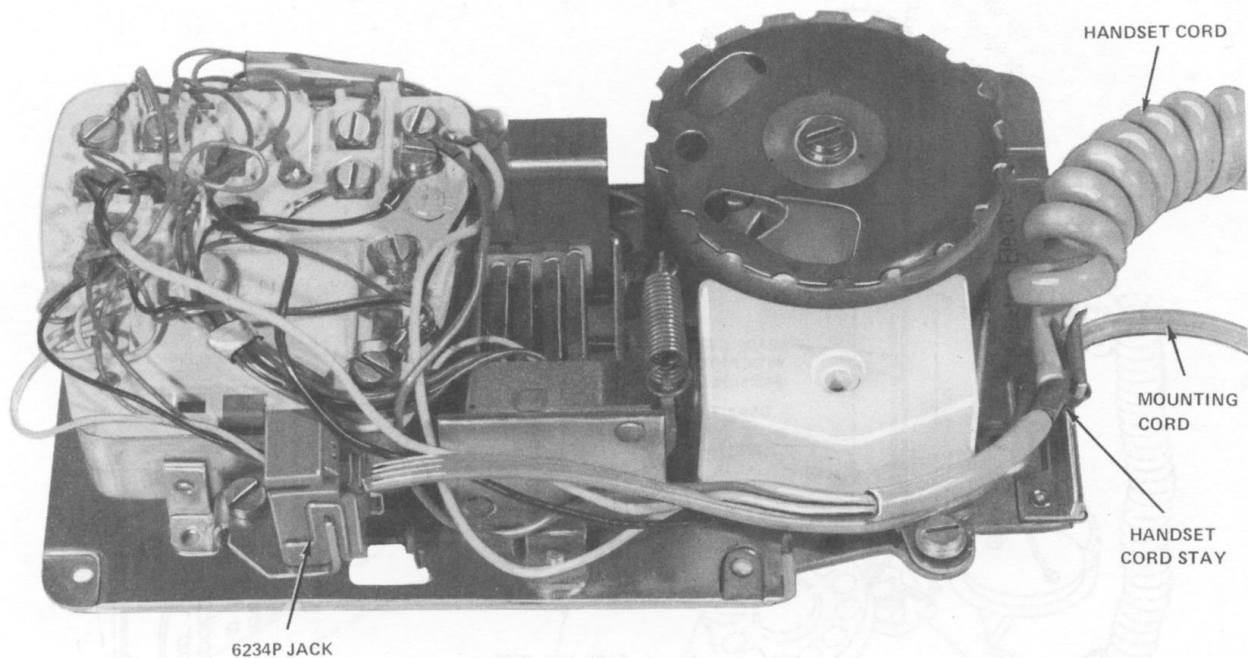

Fig. 5—Installation of Mounting Cord Using D-180778 Kit of Parts
(1) Mount 623P4 jack and jack bracket to the network as shown in Fig. 5.
(2) Connect the four 623P4 jack leads and rearrange network leads as shown in Table D.
(3) Thread one end of the D4BU mounting cord into the set and plug into 623P4 jack as shown in Fig. 5. For connections refer to Table E or F.
(1) Lay the set end of H4CJ handset cord on top of mounting cord and secure cord stay to bracket on base as shown in Fig. 5.
(2) Connect leads to appropriate network terminals (Table A or B).
(3) Remove transmitter and receiver caps from customer-owned handset. Insert handset cord leads through handset openings, feeding two white leads into receiver cavity and red and black leads into transmitter cavity.
(4) Connect white leads to U3 receiver unit, place unit in cavity and replace receiver cap.
- (1) A standard D3BN mounting cord is required for connections between the line wire, connecting block and the 581A base network terminals unless inside wire can be terminated directly in wall mounted subset. A D6AA mounting cord must be used to provide the connections between the 581A base and customer's desk stand set, except for party line service where a D10R mounting cord is used when tip party identification is required.
(2) Install set end of D3BN and D6AA mounting cords to 581A base, secure cord stay and route cord as shown in Fig. 5. D6AA cord can lay on top of D3BN cord.